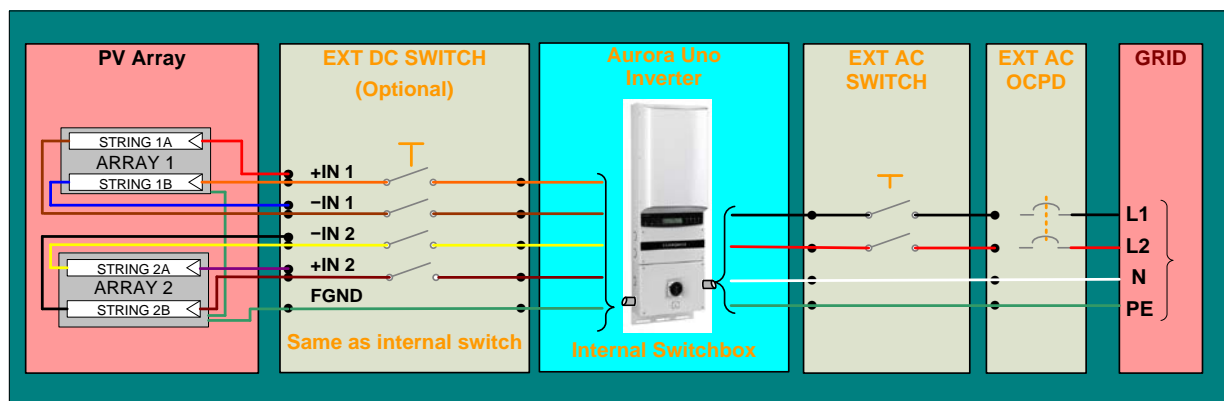

Figure 3-10: Electrical connection diagram
- Typical system connection for this inverter is shown in Figure 3-10.